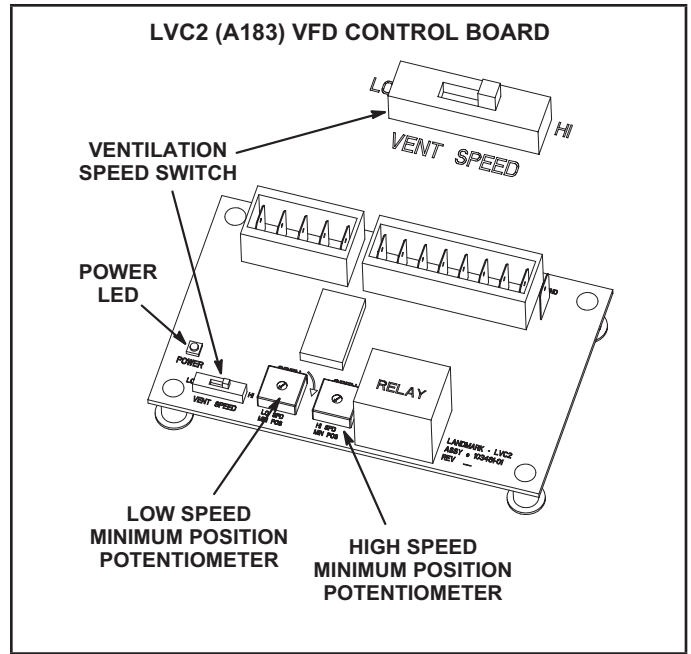

FIGURE 32
- 5 - Check the power LED on the board. See figure 32.
- 8 - When LVC2 24VAC thermostat blower (G) input and 24VDC power are present, check the LVC2 low and high speed outputs. The LVC2 uses inverse logic to enable the blower; 1VDC will be read at the enabled blower speed terminal. See table 17.